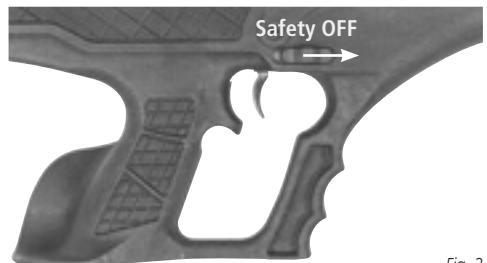

Fig. 2
- To set the safety to 'OFF', push safety button forward. In this position, the gun is ready to shoot. (Fig. 2)